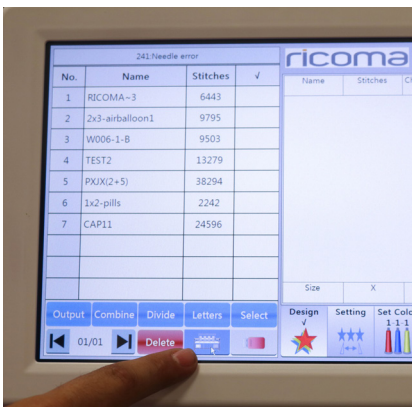

Figure 65
6. Then, click on the machine's memory icon located to the left of the USB's memory icon. **See Figure 65.**